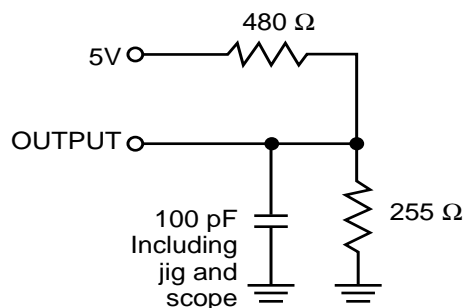

Figure 1a.
1. Test conditions assume signal transition times of 5 ns or less, timing reference levels of 1.5V, input pulse levels of 0 to 3.0V and output loading specified in Figure 1a.
Output Load	See Figures 1a and 1b